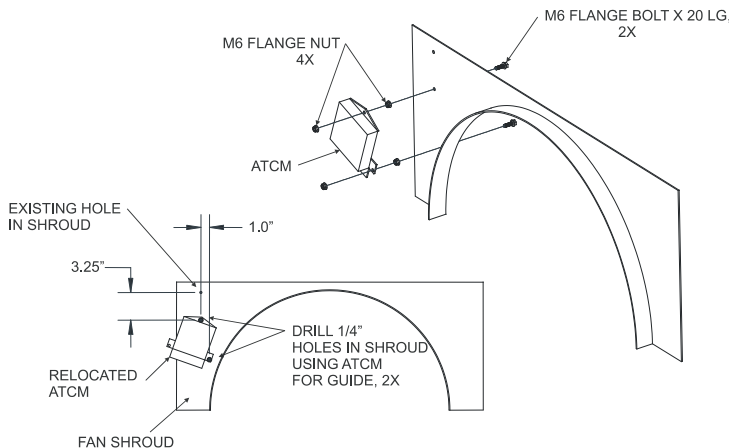

Figure 5.7
- ☐ Drill 1/4" hole in upper fan shroud 3 1/4" directly below existing ATCM mount hole as shown, and then use the ATCM to locate a second 1/4" hole below the first and 1" toward the center of the shroud.(Figure 5.7)
- ☐ Apply Loctite and install the two supplied M6 flange-head bolts and flange nuts into the holes as shown. Test fit ATCM, but, don't mount it to the shroud until it is installed on the truck. (Figure 5.7)
- ☐ Mount the ATCM to the two bolts on the fan shroud using the two flange nuts supplied. Ensure the wire harness connector is reattached securely. (Figure 5.7)